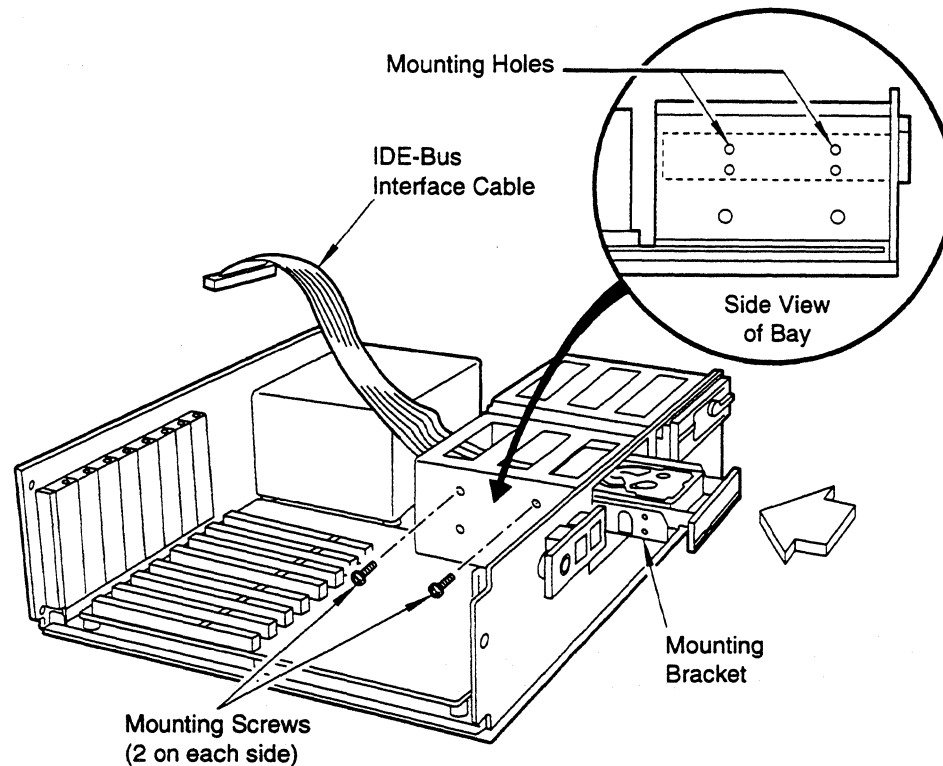

Figure 3-10 Drive Installation
3. Secure the drive to the system chassis by using the mounting screws, as shown in Figure 3-10.